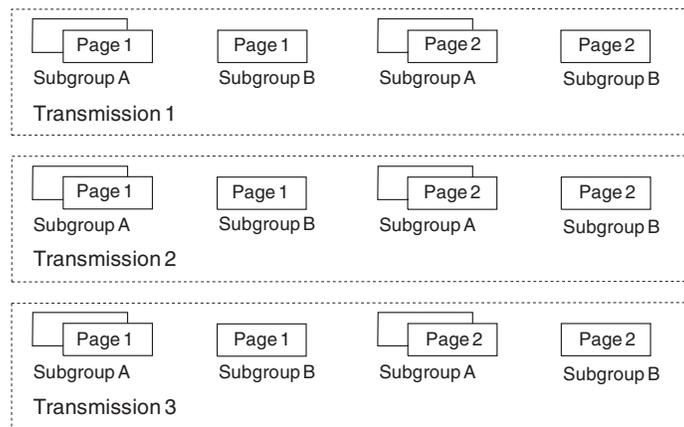

Figure 37. Output from three transmissions of a two-page data set
1. In this example, assume that you have a two-page print job that uses a form definition that includes a copy group containing two subgroups. The first subgroup calls for two copies with a particular set of modifications, and the second subgroup calls for one copy with another set of modifications. In the JCL, you would specify COPIES=3. The data set is transmitted to the printer three times, and you get three collated copies of the entire job. The printed output would be as shown in Figure 37. Nine copies of page one are printed, and nine copies of page two are printed.